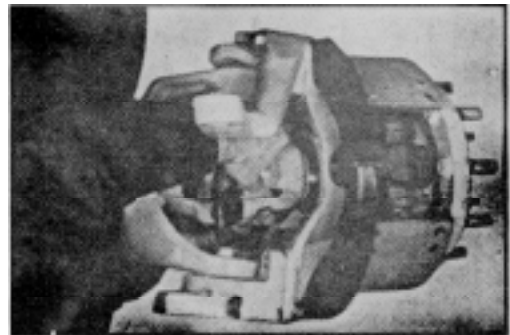

Fig. 37
2. Lubricate the seal and bearing surface of the outer drive yoke and put the yoke in place in the bearing and seal that is in spindle yoke. (See fig. 37).